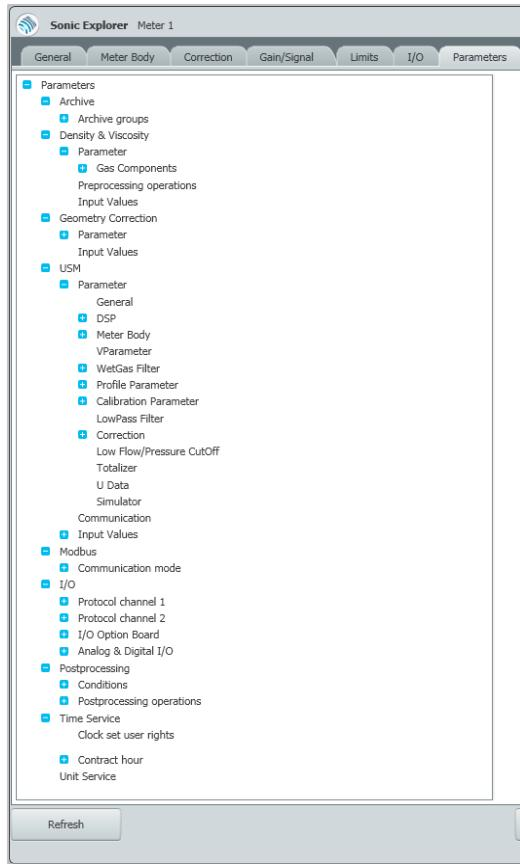

Figure 20-9: Parameters Tab
- ▶ Navigate using the blue plus or minus boxes to open more or less configuration options. See Figure 20-9.